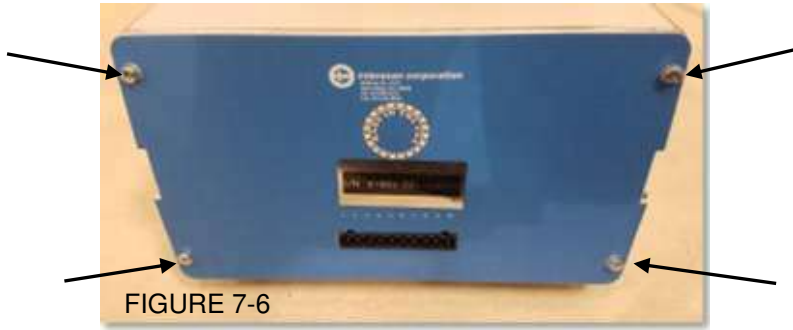

FIGURE 7-6
- 5) Remove the 4 screws from the corners of the rear panel as shown in Figure 7-6 below and set aside. Use care not to lose screws or plastic washers! Pull the panel away from the instrument case and set aside. Remove the TOP 2 SCREWS ONLY from the front panel.